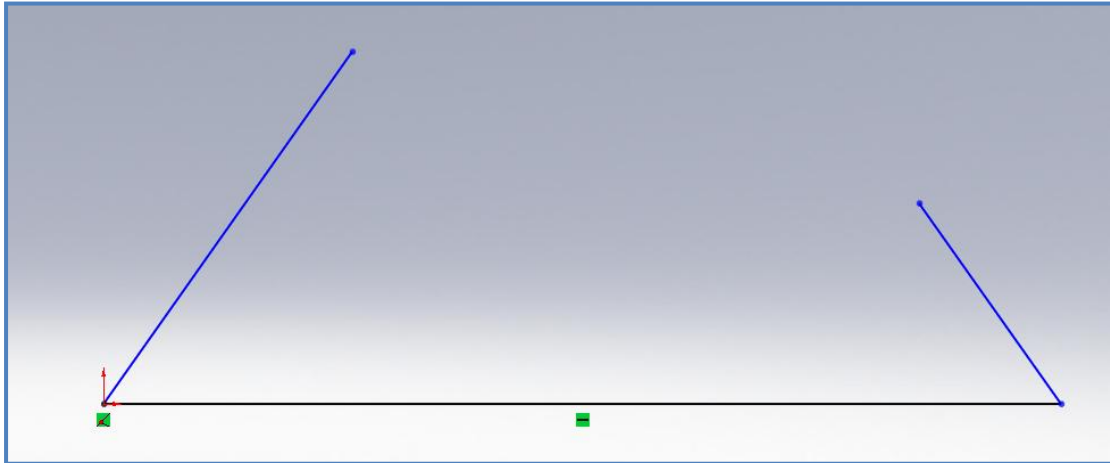

Figure 3
- Continue to sketch a line coincident with the origin and horizontally across as shown in figure 3 (Length, angle, etc is not important at this stage).